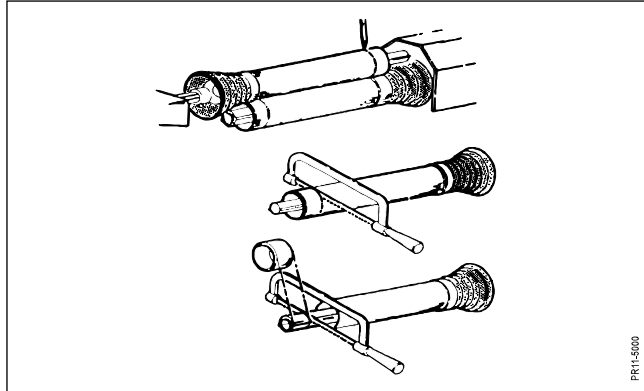

Fig. 2-4
- Fig. 2-4** Fasten the PTO drive shaft half parts to PTO and PIC, respectively, when these are at the same horizontal level and opposite each other. (The shortest distance from the machine).